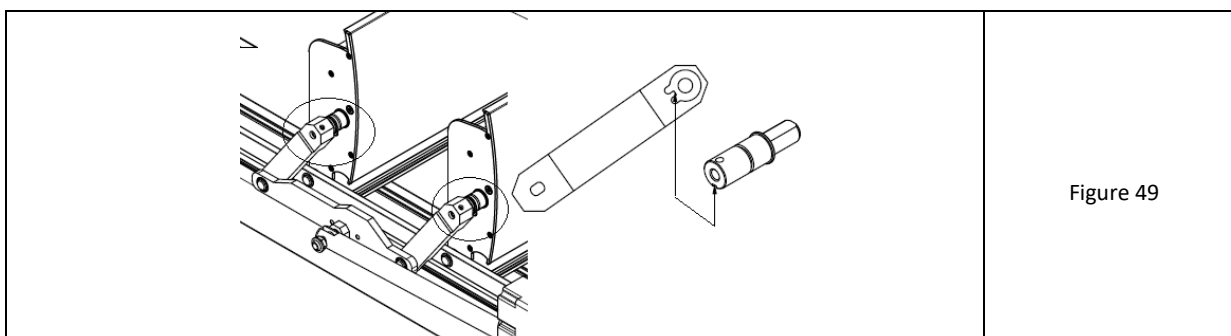

Figure 49
18. Slide both drive arms located inside the beam onto the blade drive pins inserted into the beam - using access from the inner window at the top of the drive beam (next to the motor). Pay attention to the exact fit of the grooves of the drive arms and shaft in the blade (fig. 49).